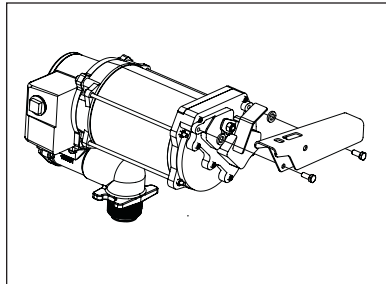

Figure 1
3. Align the bolts with the two threaded holes on the switch coverplate thread the bolts into the holes. Torque bolts to 45-60 in-lb (Figure 1).